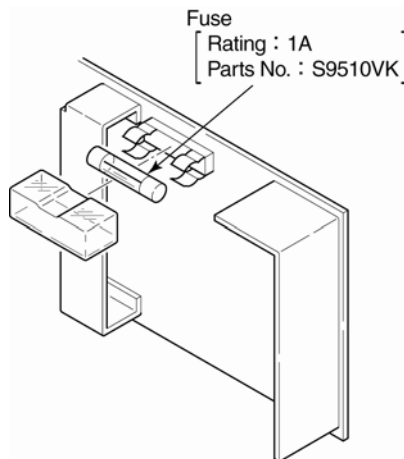

Figure 7.6 Replacement of Fuse
- (1) Remove the fuse holder cap, then pull the fuse out in the direction shown in Figure 7.6.
- (2) When installing a new fuse, use a fuse with the correct rating. Fasten the cap securely.